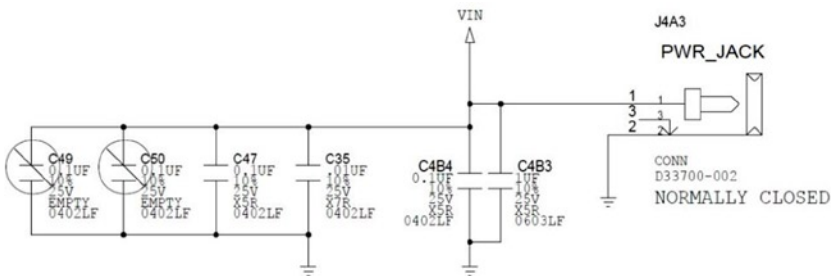

Figure 1-10. VIN connected directly to power jack DC
- There is no VIN jumper anymore. The VIN is connected directly to the DC jack, as you can see in Figure 1-10. You can check this in the schematics discussed in the section.